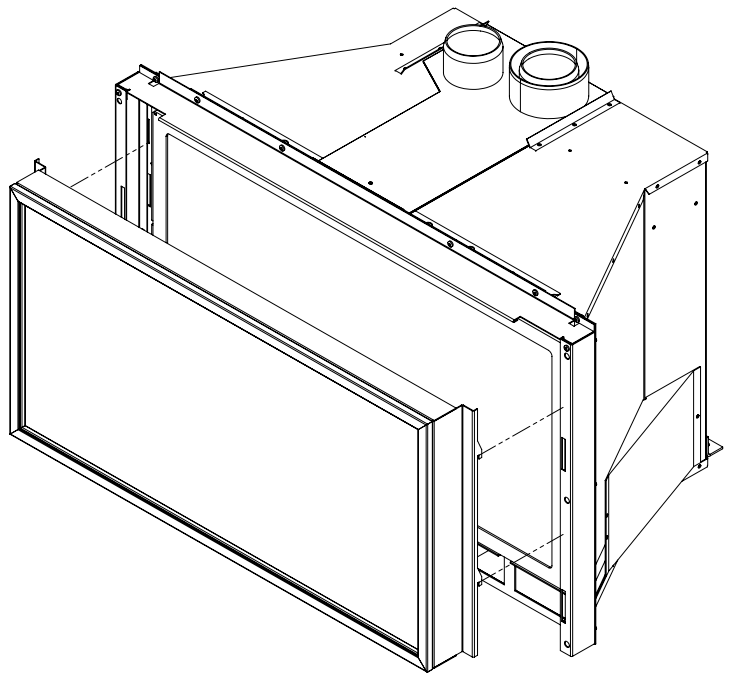

Figure 31: Installing Safety Screen onto Brackets
2. Lift the face upright in front of the fireplace with the four (4) hooks pointing towards the fireplace. Slide the hooks into the corresponding slots on each side of the cabinet (see Figure 31). Ensure the hooks are secure before releasing the safety screen.